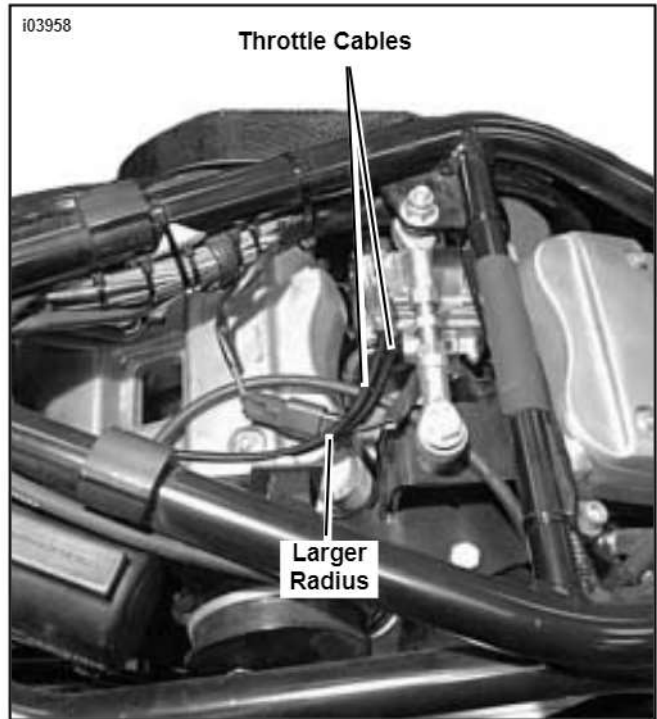

Figure 14. Throttle Cable Routing (Buell Models)
1. See Figure 14. Route the throttle cables with large radius curves so that they do not interfere with other components.